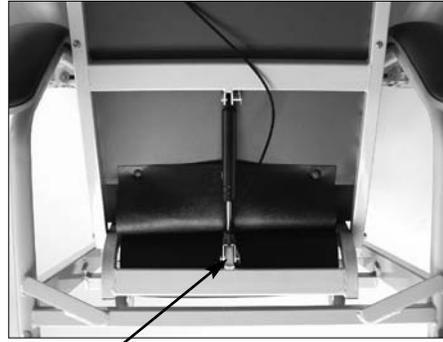

Figure 3
1. Remove cardboard shipping retainers from around Gas Spring Cylinder. Rotate the hinge on the gas spring so that it is perpendicular to the upholstered back. (See Fig. 3)
6. Raise the upholstered back to vertical position. Tuck the plastic skirt at rear of upholstered back behind cross brace of seat frame. Align the hinge at the bottom of the gas spring with the holes in the "U" bracket in the center of the seat frame cross brace. While holding the back with one hand, secure the gas spring hinge to the "U" bracket by replacing the 5/16" diameter clevis pin with the other hand. Secure the clevis pin by replacing the bridge clip. (See Fig. 3)